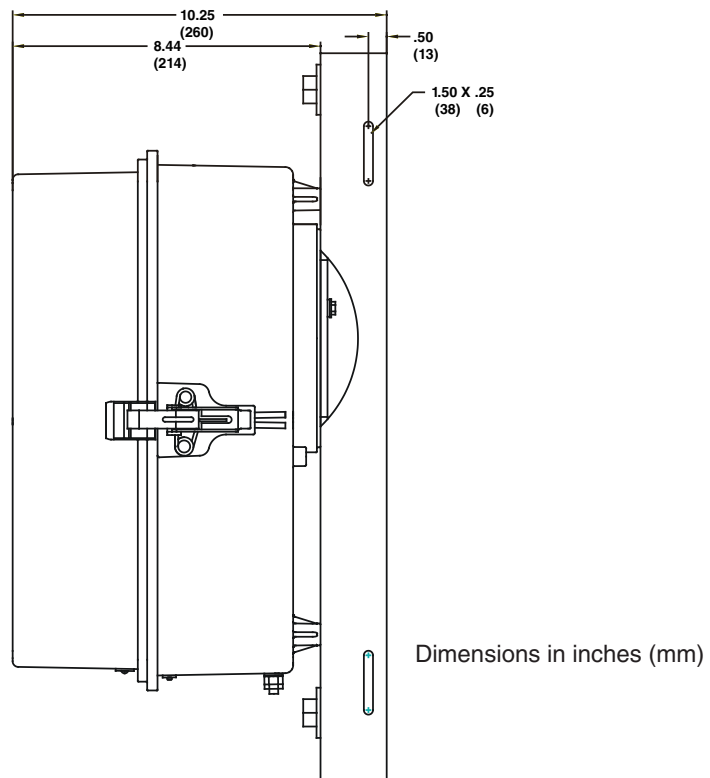

Figure 15. Side view of the capacitor control enclosure, showing the mounting slots.
- STEP 1.** Pass a stainless-steel strap or clamp through the two upper mounting slots in the bracket. Pass a second strap through the two lower mounting slots. See Figure 15 on page 15.